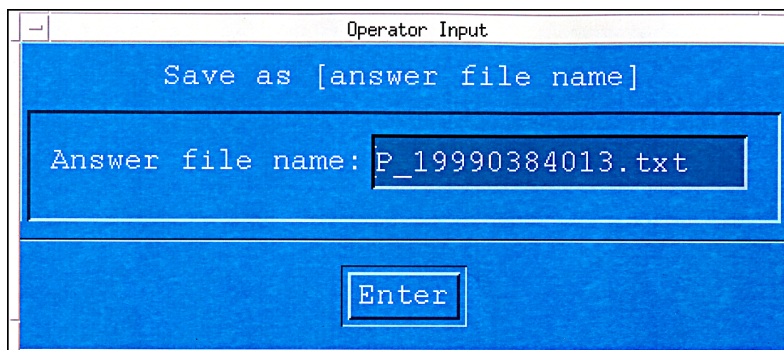

Figure 13
- 7.9.7 The "Save as [answer file name]" dialog box will appear. See Figure 13. Verify that the number appearing after "Answer file name:" is correct for the test being conducted.